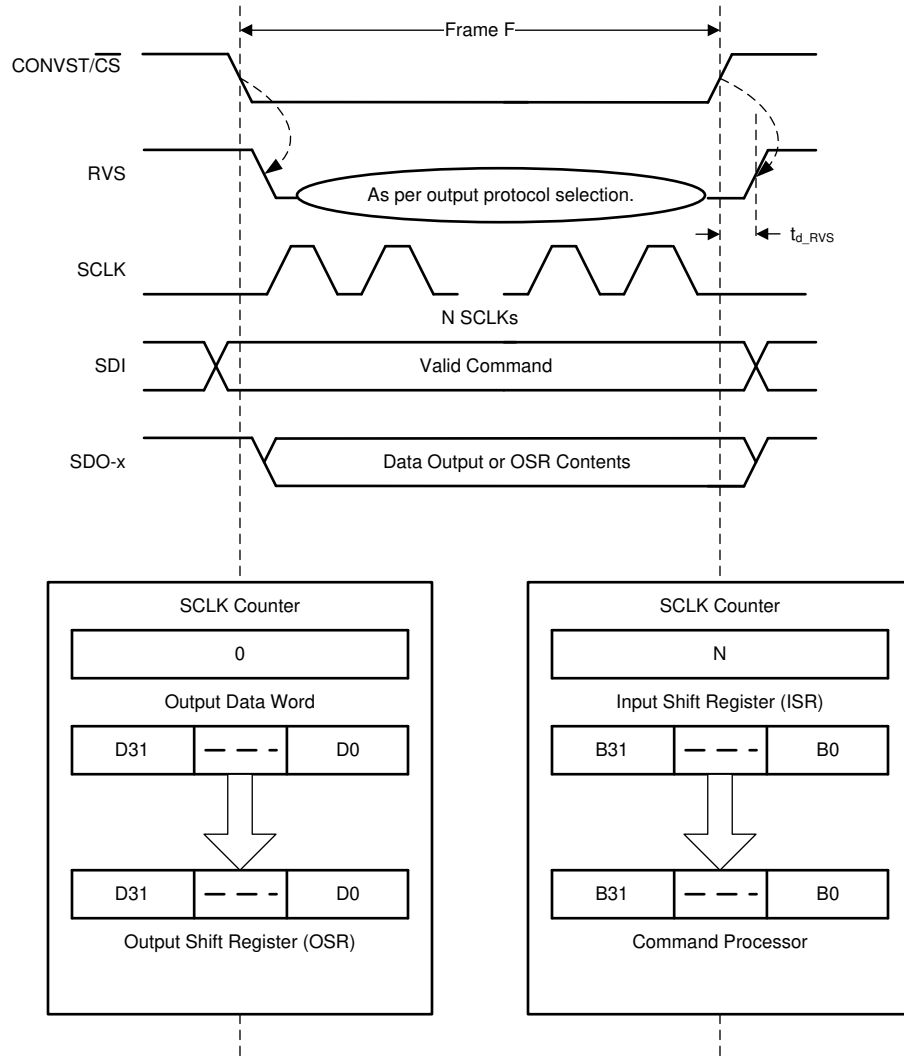

图 6-25. Data Transfer Frame
A data transfer frame between the device and the host controller begins at the falling edge of the CONVST/ $\overline{\text{CS}}$  pin. This frame ends when the device starts conversions at the subsequent rising edge. The host controller initiates a data transfer frame by bringing the CONVST/ $\overline{\text{CS}}$  signal low (see Figure 6-25) after the end of the CONV phase. This process is described in the CONV State section.
- The device takes control of the data bus. As illustrated in Figure 6-25, the contents of the output data word are loaded into the 32-bit output shift register (OSR).
- As illustrated in Figure 6-25, the contents of the input shift register are transferred to the command processor for decoding and further action.